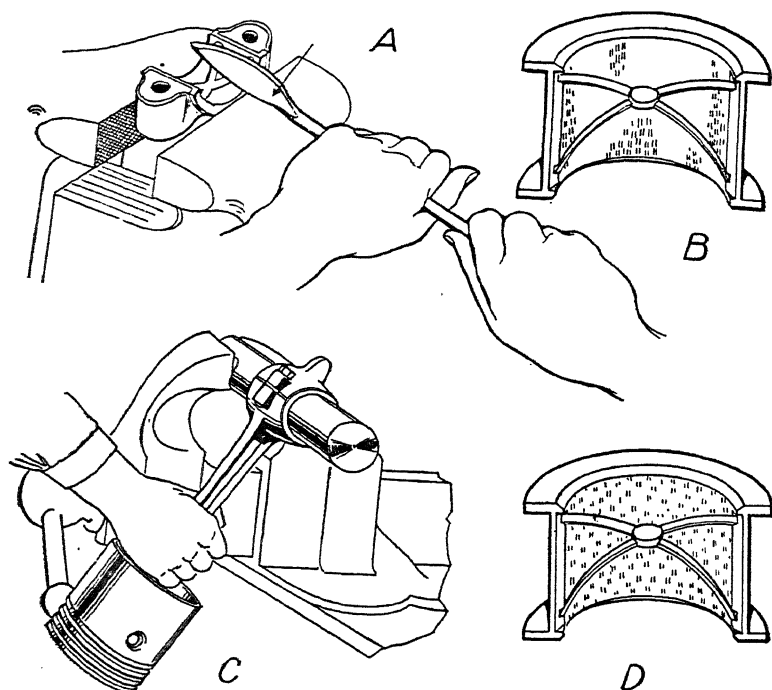

Fig. 11. A—Method of Scraping Rod-Bearing Cap
When fitting connecting-rod bearings by scraping, it is absolutely necessary to have the crankshaft at hand, or a mandrel which is exactly the same size as the crankshaft, to which the bearing may be fitted as the work proceeds. Fig. 11 illustrates one method of mounting a mandrel in a vise so that the work of bearing fitting may be carried on with the best results. The crankshaft is not always out of the engine, however, and if the workman does not want to crawl in under the engine and out many times, he should provide himself with a mandrel, Fig. 11 at *C*, the exact diameter of crank pins.
on the bearing will receive an impression from the blue on the crankshaft or mandrel, with the result that an impression similar to that shown at *B* in Fig. 11 is secured. It will be noted that the impression is not evenly distributed and there are certain high points. It is desired to have the impression evenly distributed as shown at *D*. To this end it is necessary to use the bearing scraper to reduce the
*Scraping the Bearings.* The first thing to do when starting the bearing scraping work is to clamp the bearing cap or the connecting rod in the vise, as suggested at *A* in Fig. 11, being very careful not to grasp the cap in such fashion that the ends of the soft bearing metal are damaged. Not infrequently the inexperienced mechanic will use the vise to hold the bearing cap in such a manner that considerable damage is done to the bearing metal. It must not be permitted. To do so invites disaster and is the sign of a careless workman.
removed this first cut, the impression is then made; after which a scraper is used to reduce those high points which appear on the surface of the metal indicated at B in Fig. 11.
After scraping off the high points of the first impression, another impression is made and again the high points are scraped off. This work proceeds until a perfect bearing is secured, as illustrated at D in Fig. 11. Considerable experience is required to develop skill in
*Testing Fit of a Scraped Connecting Rod.* After the work of scraping has proceeded to a point where the job is practically finished, then the mechanic will give consideration to the exact fit of the connecting-rod bearings on the crankshaft. Not too much drag must be in evidence. In the case of the full forced feed, the best mechanics recommend that the fit be such that if the connecting rod and piston are pulled up, as indicated at *C* in Fig. 11, to a horizontal position, the weight of the piston and rod will be sufficient to carry the rod downward. The use of the shim method of checking clearance is recommended where an exact fit is desired.
**Caution.** Keep an exceedingly close lookout for false bearings when fitting connecting-rod bearings. A false bearing may be secured if the edges of the bearing are not properly scraped away so as to fit them to the fillet of the crank pin and shaft. For instance if an arbor is used, as suggested at *C* in Fig. 11, the fillet would not be taken into consideration; and when the rod was assembled on the crank pin, it might be felt that a good fit was secured when as a matter of fact the bearing would be altogether on the slight portion which struck the fillet of the pin.